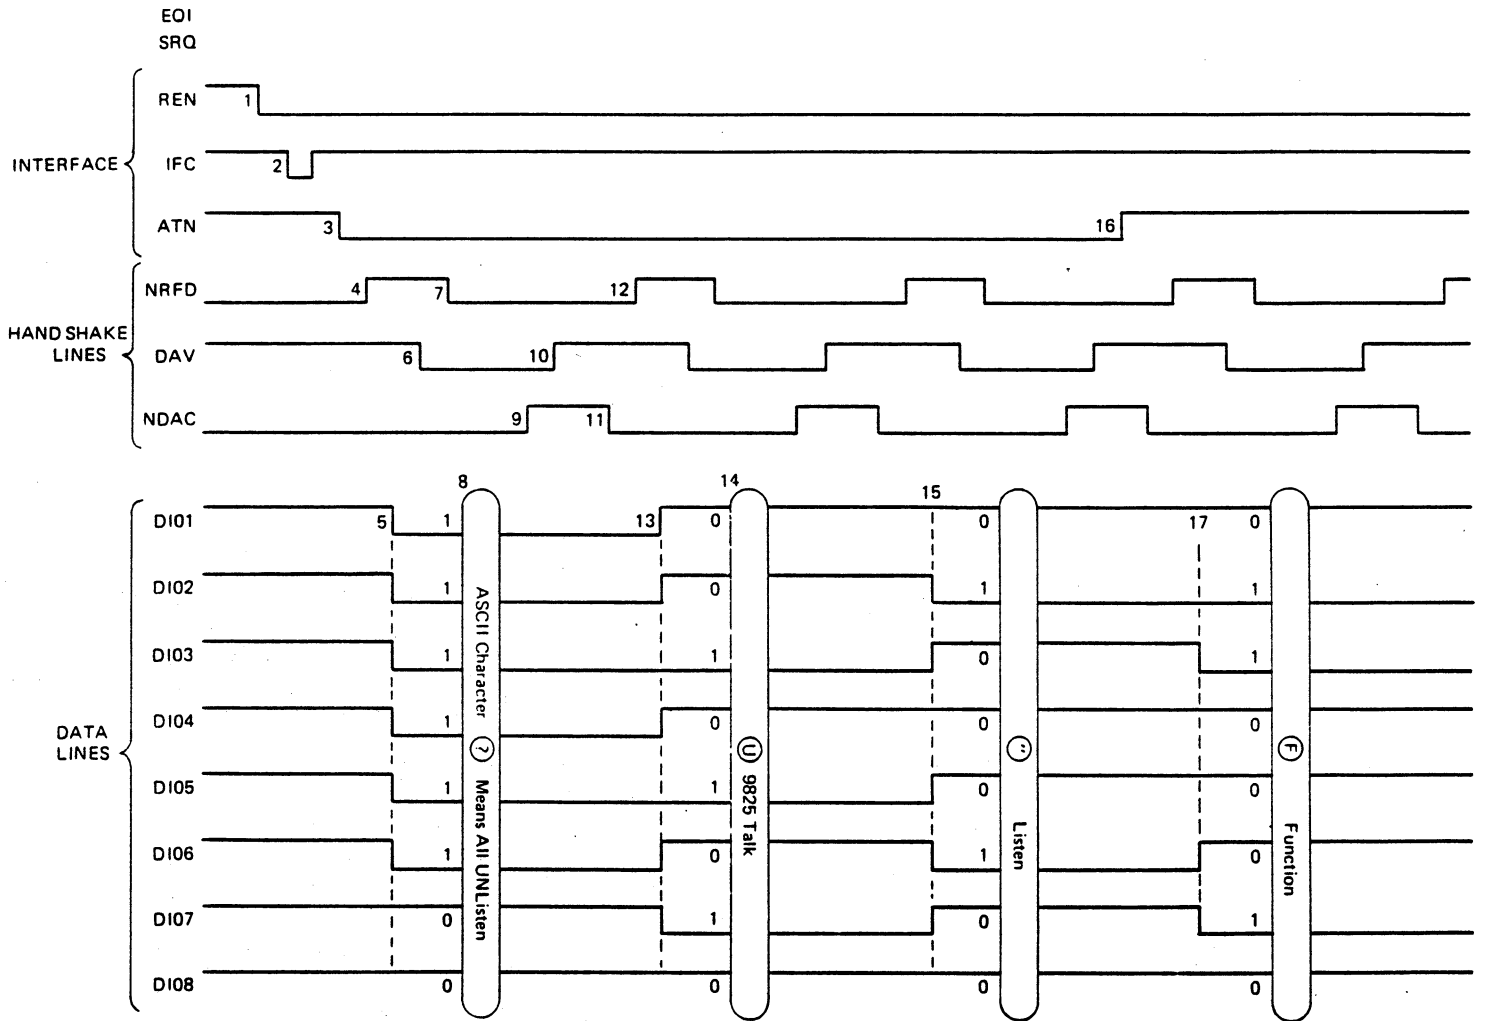
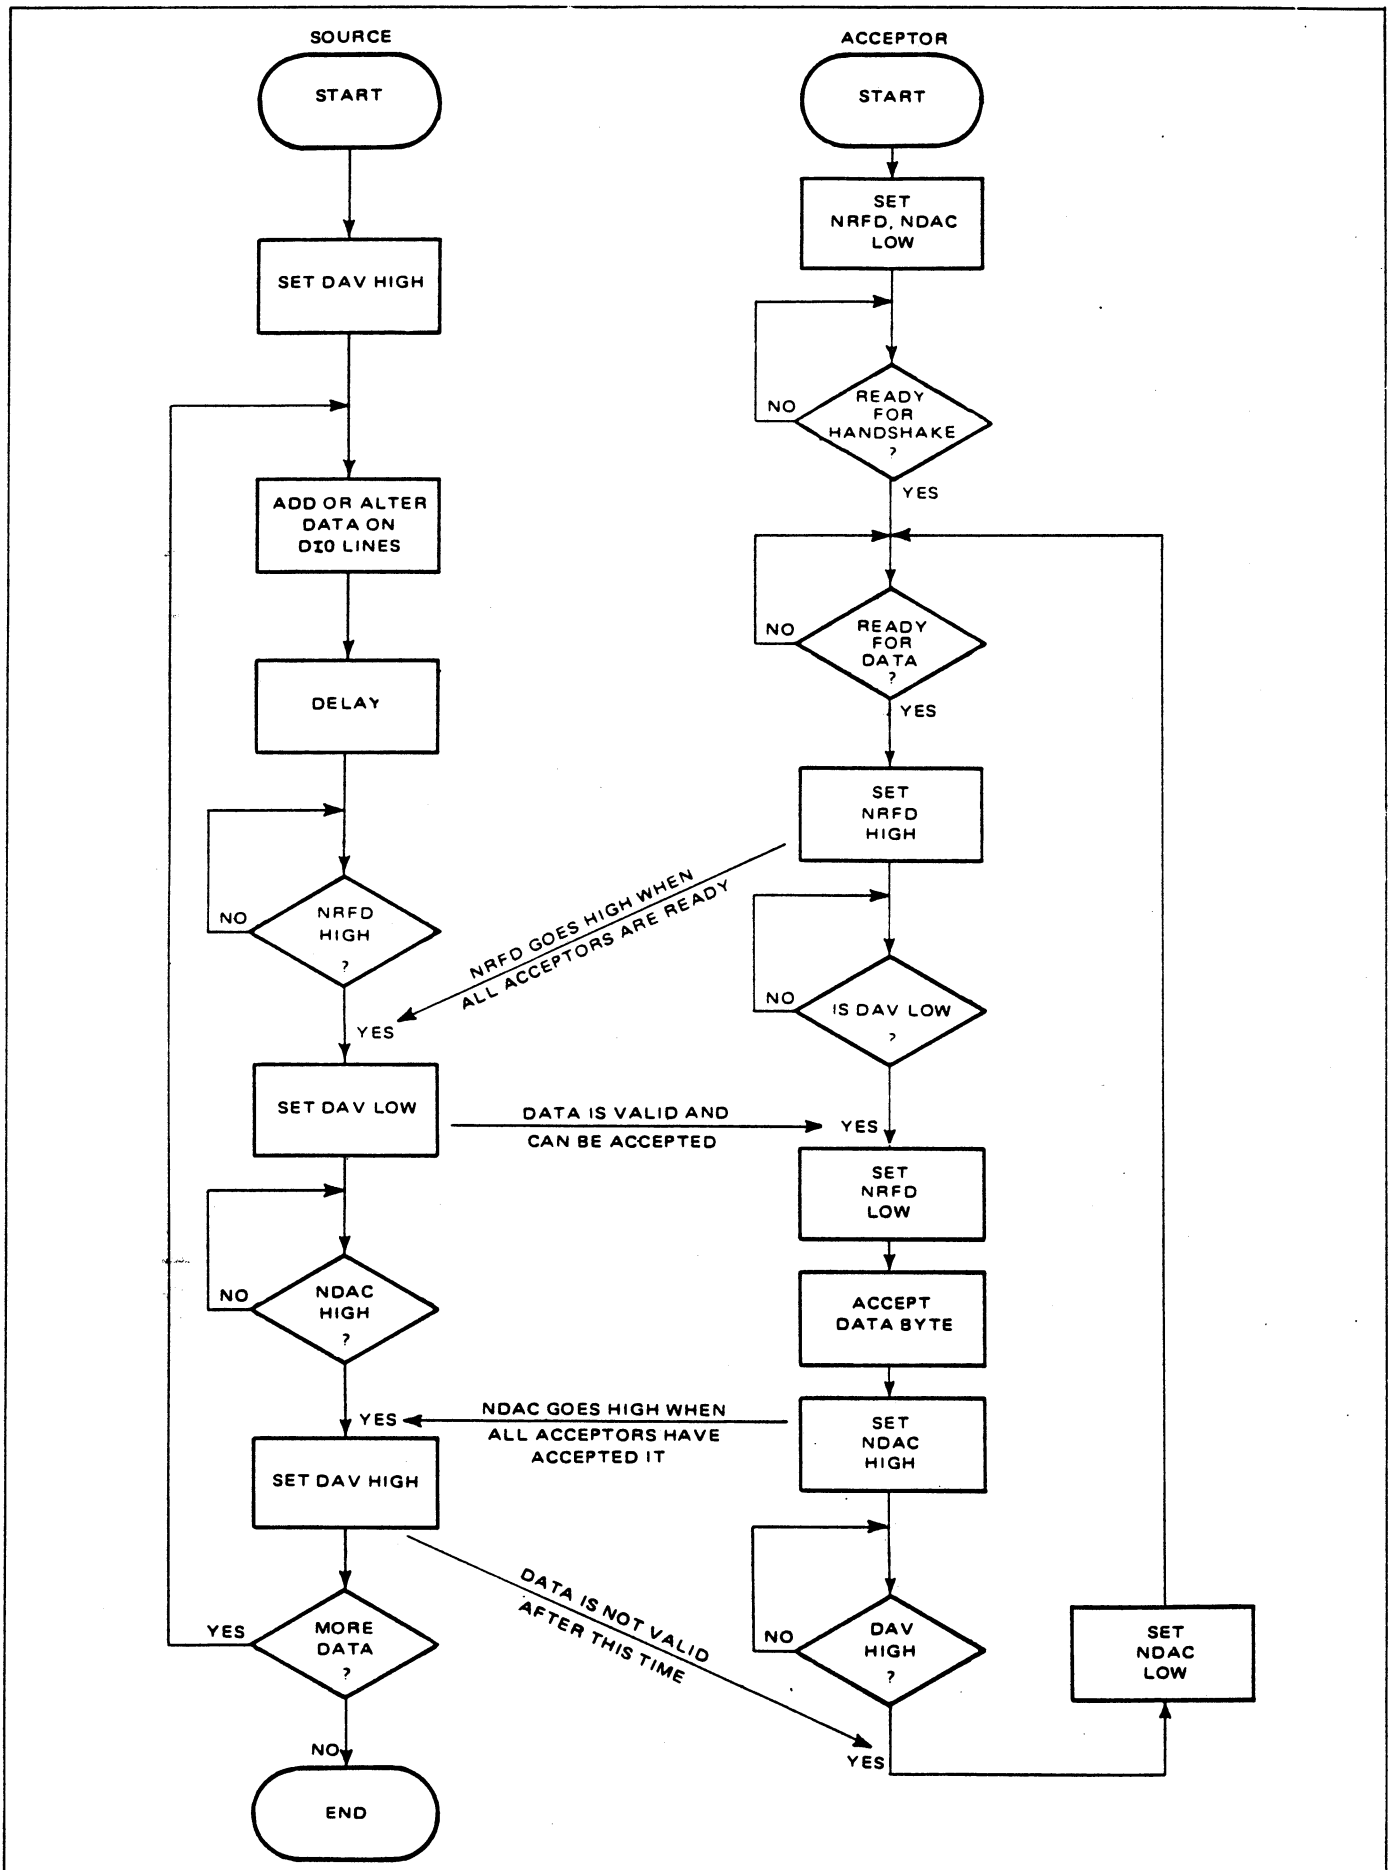

Figure 3.11 - Interface Timing
Figure 3.12 - Handshake Flow Chart
3.4.4.1 The handshake is the process by which each data byte is transferred from the source to the acceptor. Figure 3.11 illustrates the sequential relationship between the DAV, NRFD, and NDAC lines (used to transfer data bytes). Figure 3.12 illustrates the handshake flow chart.
3.4.6.1 The transmission of programming instructions to the Series 6000 and the subsequent transmission of measurement data to the controller are accomplished by transmitting programming instructions as outlined in the bus operation sequence in Table 3.10. Table 3.10 and the accompanying timing chart (Figure 3.11) illustrate the sequence of the transmission of device dependent messages to the 6000 which cause it to measure the voltage of a measurement signal applied to the input and then transmit the resultant measurement data to the controller via the interface bus.